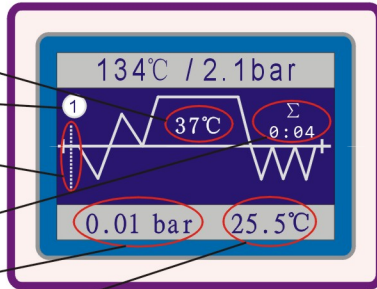

Fig.6. 4-15
(15) **Save Electricity Function:** when this interface (Fig. 6. 4-14) stationary on the LCD, it appear 59:59 countdown, after one hour, if no one to open the door and remove this interface. the control system judged as operator have left. To reduce the risk and save electricity, it will stop to the heating coil and the steam generator power. Until you get back to open the sterilizer door can only be to the heating coil and the steam generator to restore power.
When the drying work into the last minute the vacuum pump be stopped and LCD show 00:59 balance time countdown the control system will open the air solenoid valve(Ev3) for balance between the pressure in chamber and atmospheric, so that after the end of sterilization, you can easily open the door.(Fig. 6. 4-23)